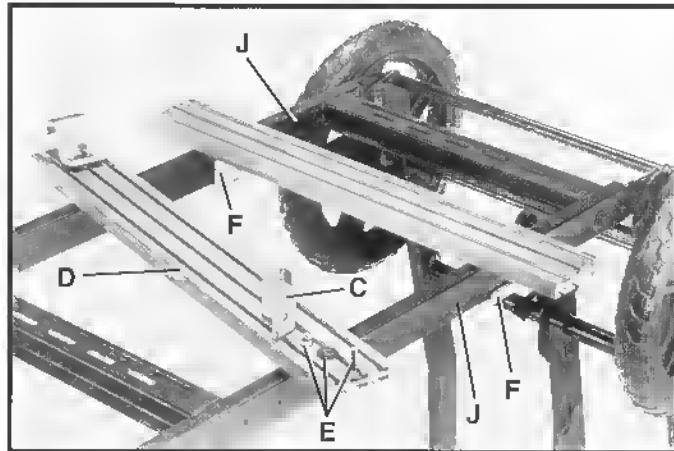

Fig. 30
2. Loosely assemble one mounting clamp (C) Fig. 30, to the end of each mounting rail (D) using four 1" carriage head screws, flat washers, and locknuts (E). Do not completely tighten hardware at this time. **NOTE: Carriage head screws must be inserted into one of the three slots in the mounting rails as shown.** Then, turn mounting rail over and assemble the rail assembly to the end of the saw stand which has the wheels by hooking mounting clamps (F) under front and rear rails (J) of the saw stand as shown.